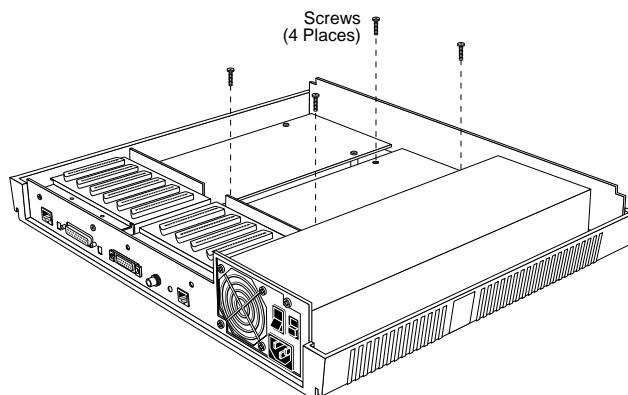

Figure C-8. Securing the SLC to the MLB
- 4 Secure the SLC to the MLB using four pan-head Phillips screws and two flat washers (see Figure C-8).